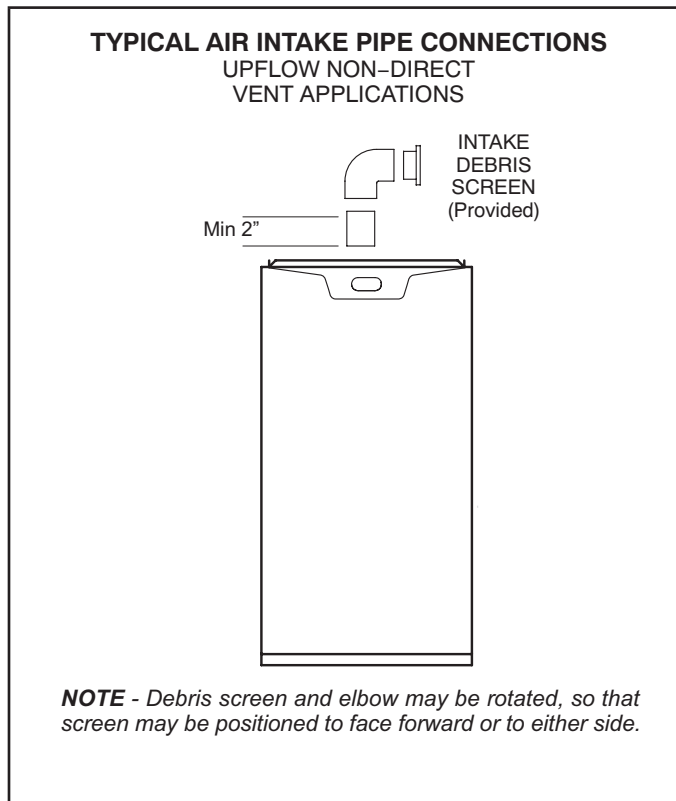
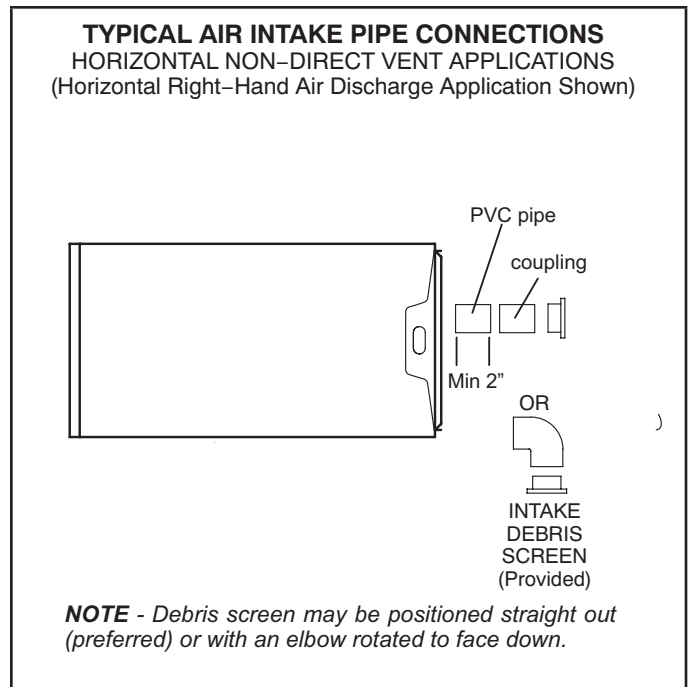

Figure 26
Figure 27
- 1 - Use field-provided materials and the factory-provided air intake screen to route the intake piping as shown in Figure 26 or Figure 27. Maintain a minimum clearance of 3" (76mm) around the air intake opening. The air intake opening (with the protective screen) should always be directed forward or to either side in the upflow position, and either straight out or downward in the horizontal position.